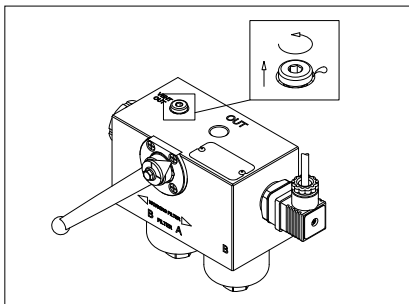

fig. 12
- (Fig. 12) Loose the “Vent OUT” breather plug by a maximum of one turn
- For the mounting/dismounting of the indicator, please refer to the paragraph “Clogging indicator replacement” above (Fig. 12÷16)